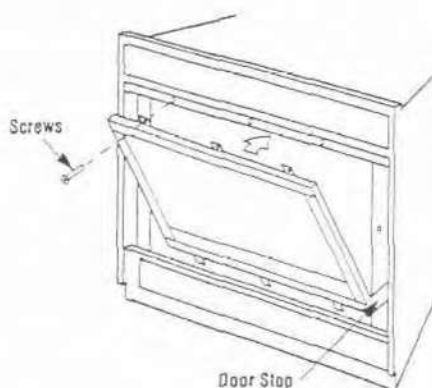

Figure 44
Position the door frame in front of the firebox opening, with the joint in the gasket down (Figure 44). Locate the three (3) tabs at the bottom edge of the door frame into the three (3) brackets at the base of the fireplace front opening. Lean the door frame back towards the fireplace ensuring that the gasket seats evenly as the door frame draws shut. Install the three (3) $\frac{1}{4}$ "-20 x 1" Phillips pan head screws removed previously and tighten to secure. Ensure that the tab on the bottom of the door frame engages the door switch.